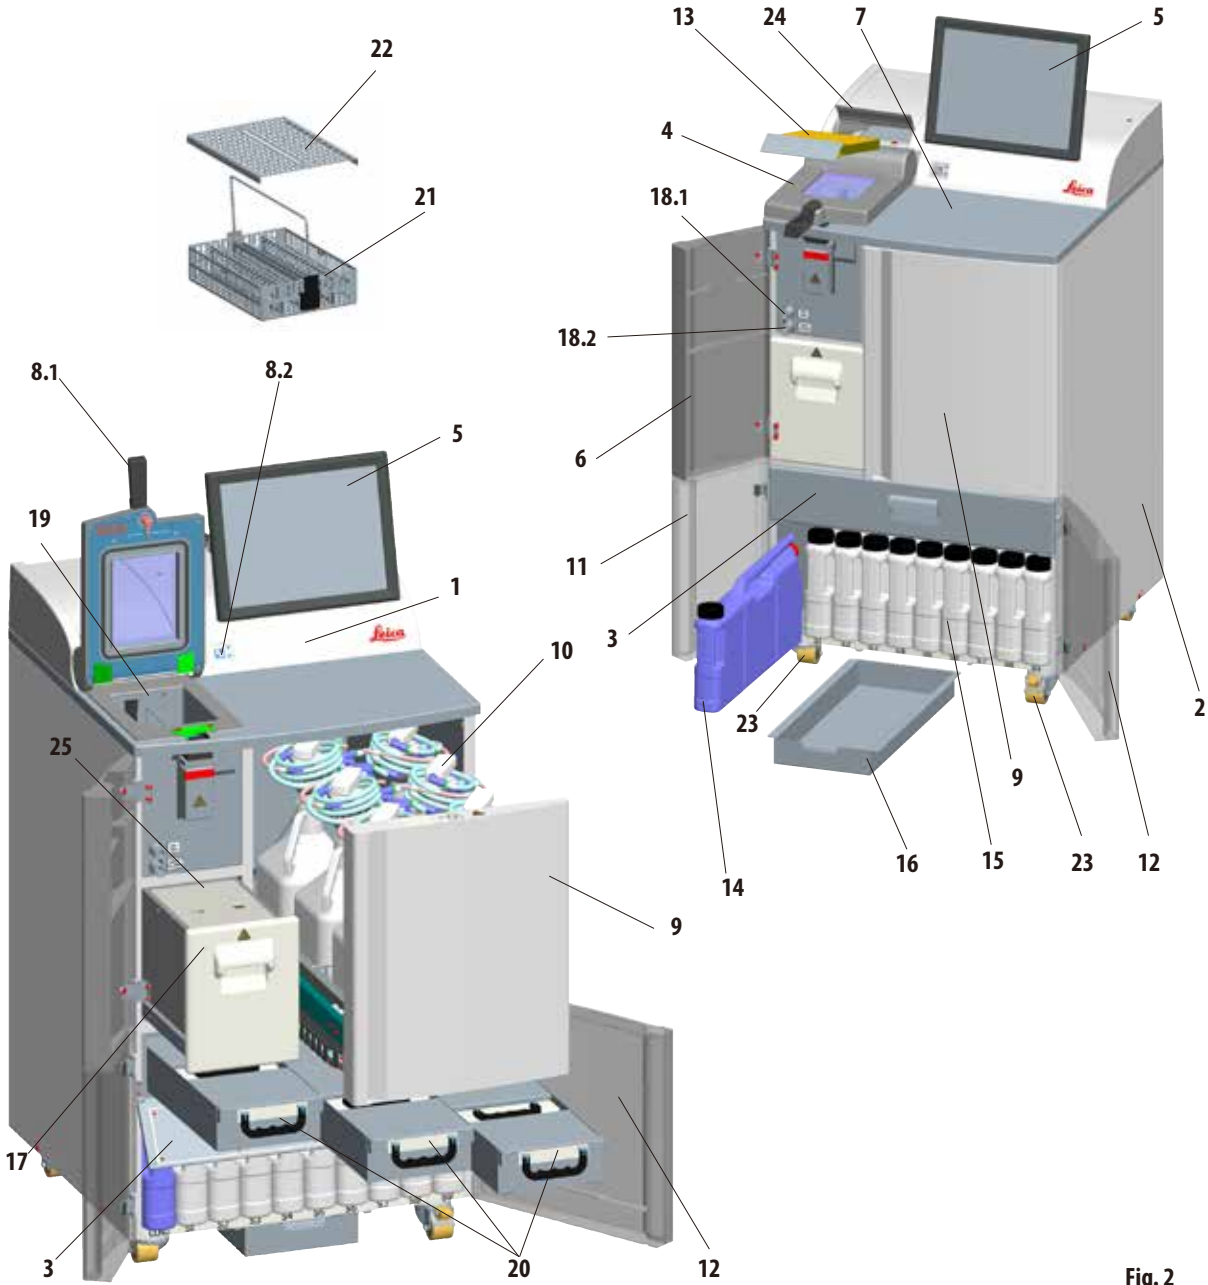

Fig. 2
**For the ASP6025, two different variants of the retort lid (4, Fig. 2) are available. The release of the retort lid differs between the older variant 1 and the newer variant 2. Regarding this, observe Chap. 4.4.1 – The Retort and Chap. 7.4 – Emergency Unlock.**